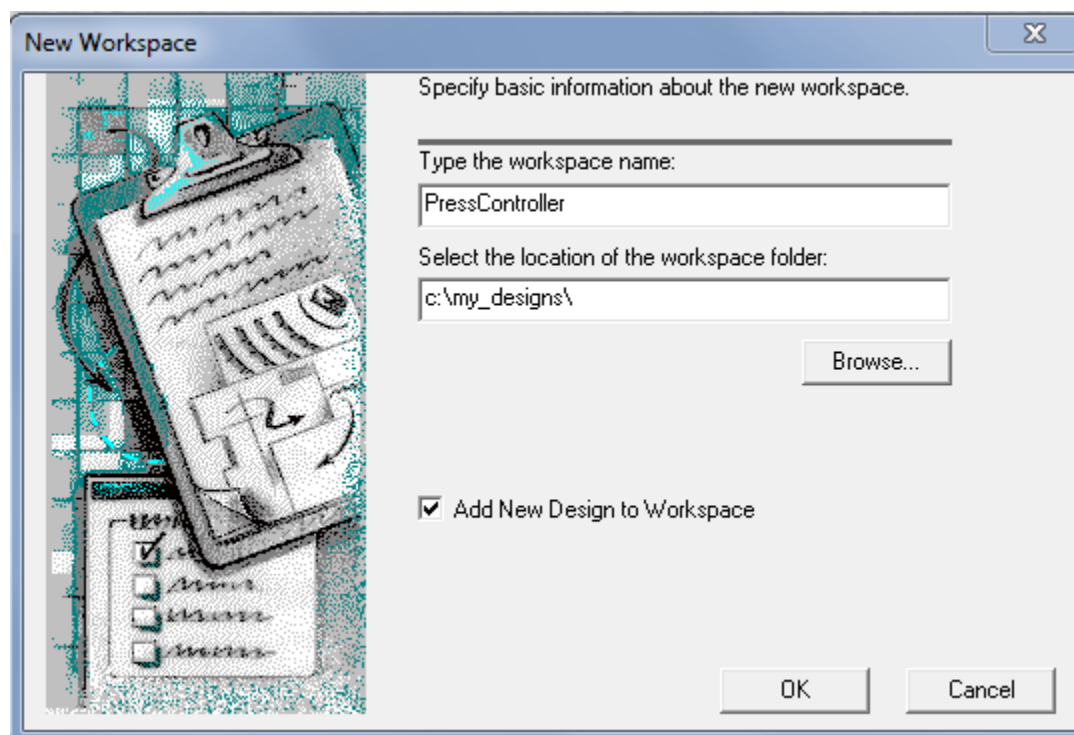

Figure 1 Create new workspace Wizard (Workspace Window)
- Click the **OK** button when you are done. (Refer to Figure 1)